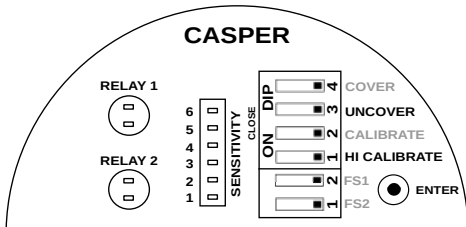

Figure 19: Saving Uncover Delay for Relay 2
- Uncover Delay is entered, but not saved. To save and test the Uncover Delay, set the UNCOVER and HI CALIB switch back to OPEN position as shown in figure 19. The STATUS LED of Relay 1 will come back to its original position.